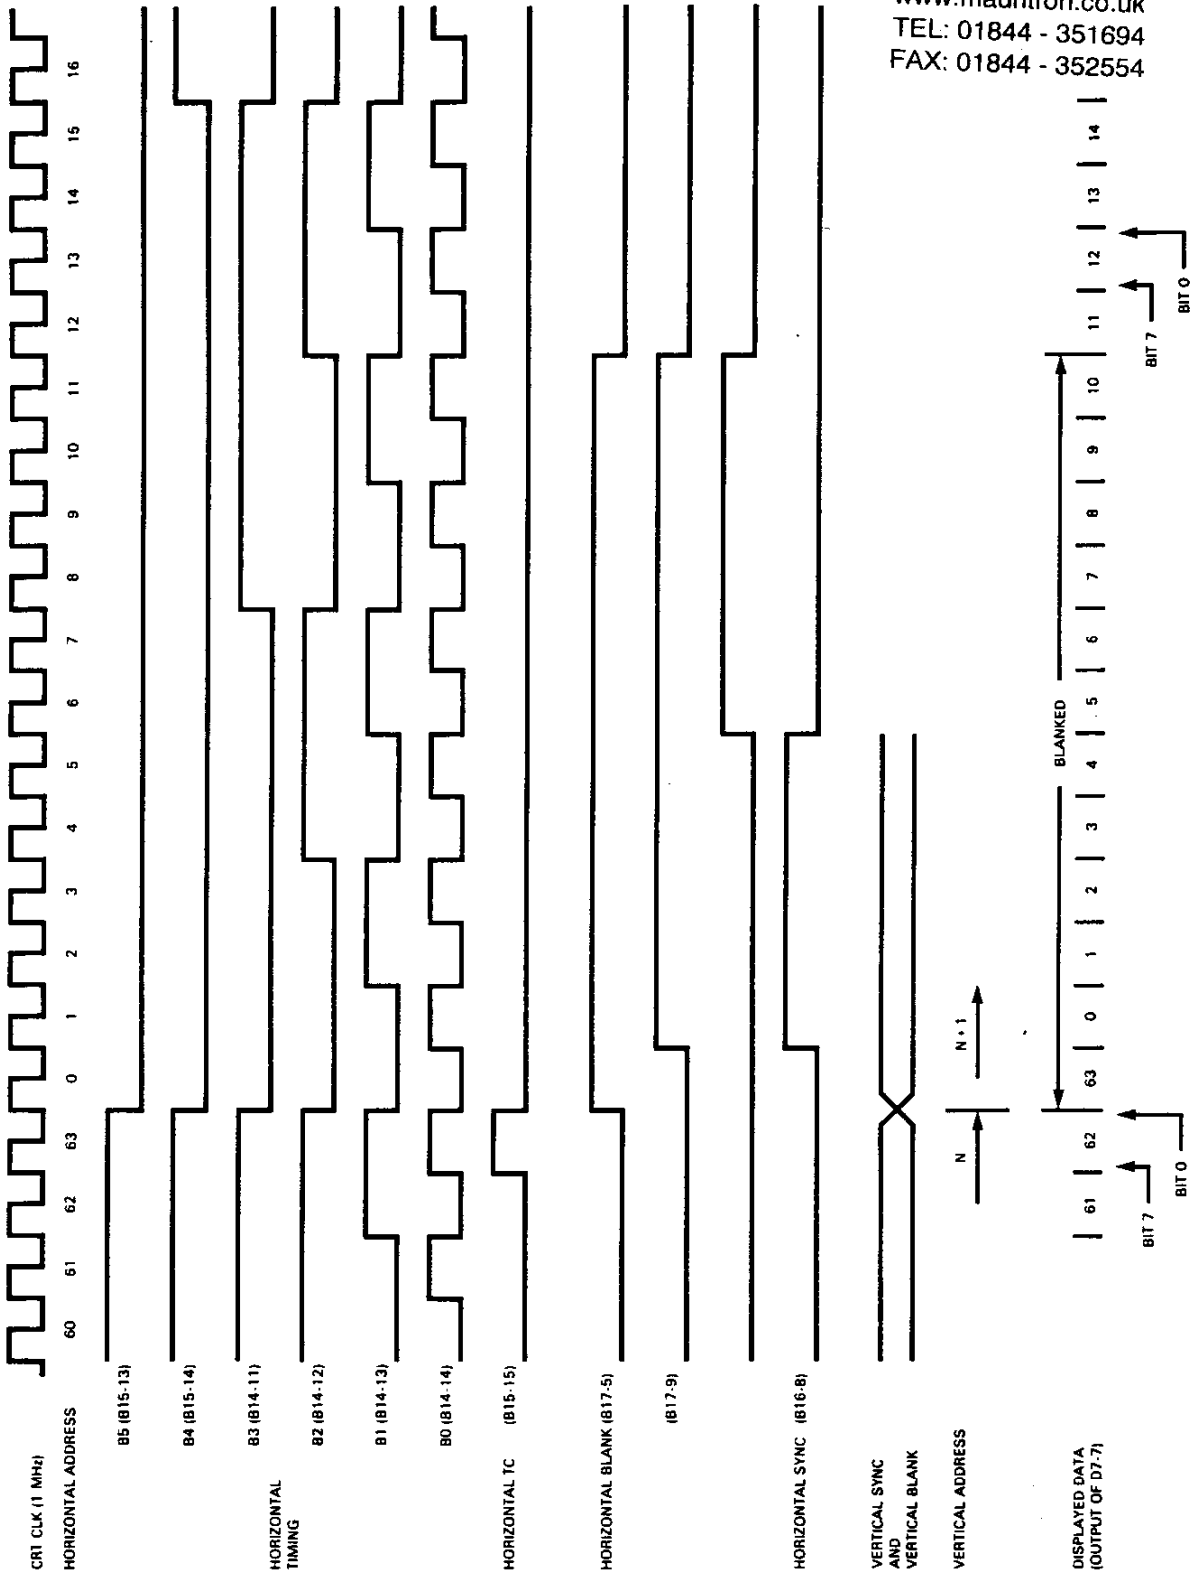

Figure 4.3A CRT Horizontal Timing
4.3.5.1 Horizontal (Refer to Figure 4.3A)